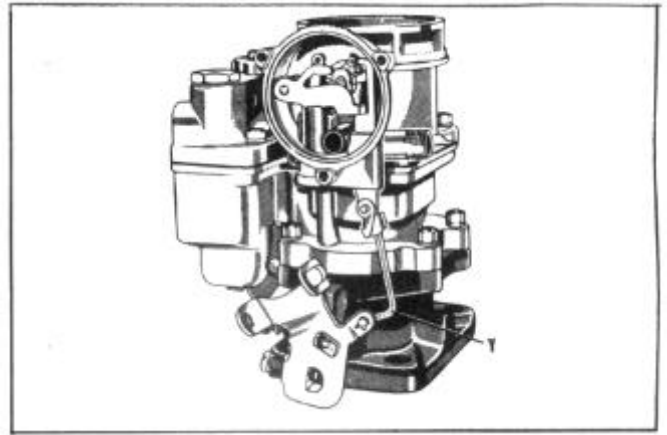

FIGURE 91
27. With the choke valve tightly closed, adjust the fast idle by bending choke connector rod at the lower angle (Y), Figure 91; to give proper clearance between the throttle valve and base of carburetor. See "Fast Idle Adjustment", Page 4-17.